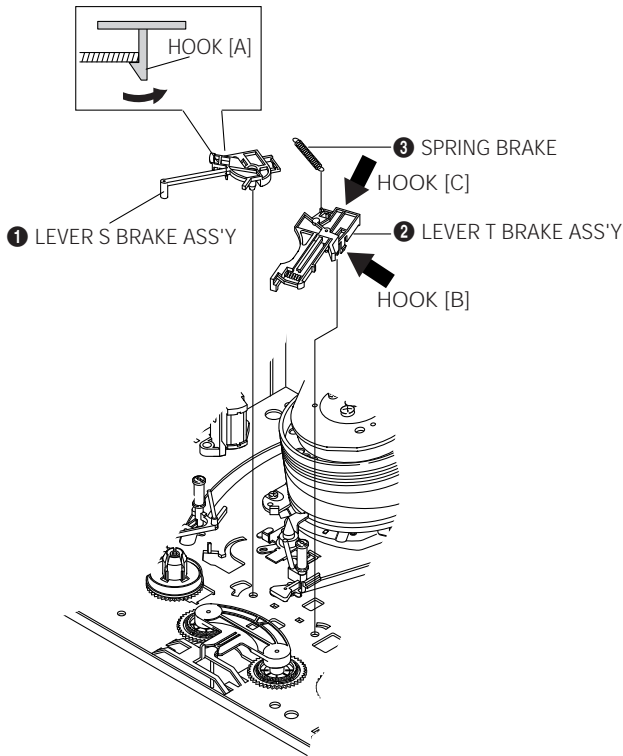

Fig. 1-16 Lever S, T Brake Ass'y Removal
- 1) Release the Hook [A] and the Hook [B], [C] in the direction of arrow as shown in Fig. 1-16.
- 2) Lift the Lever S, T Brake Ass'y ❶, ❷ with Spring Brake ❸.